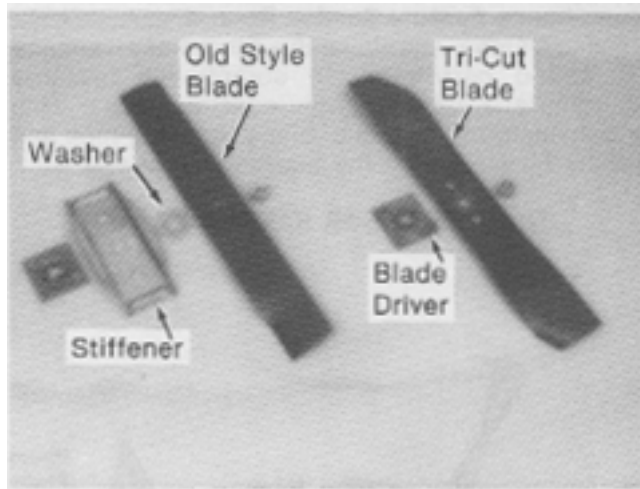

Figure 5
**NOTE:** This Blade and Hardware will fit all previous Lawn-Boy mowers, using only the Blade Driver and Blade Nut (as shown in Fig. 5). Do not use the old blade stiffener or washer with these new blades.